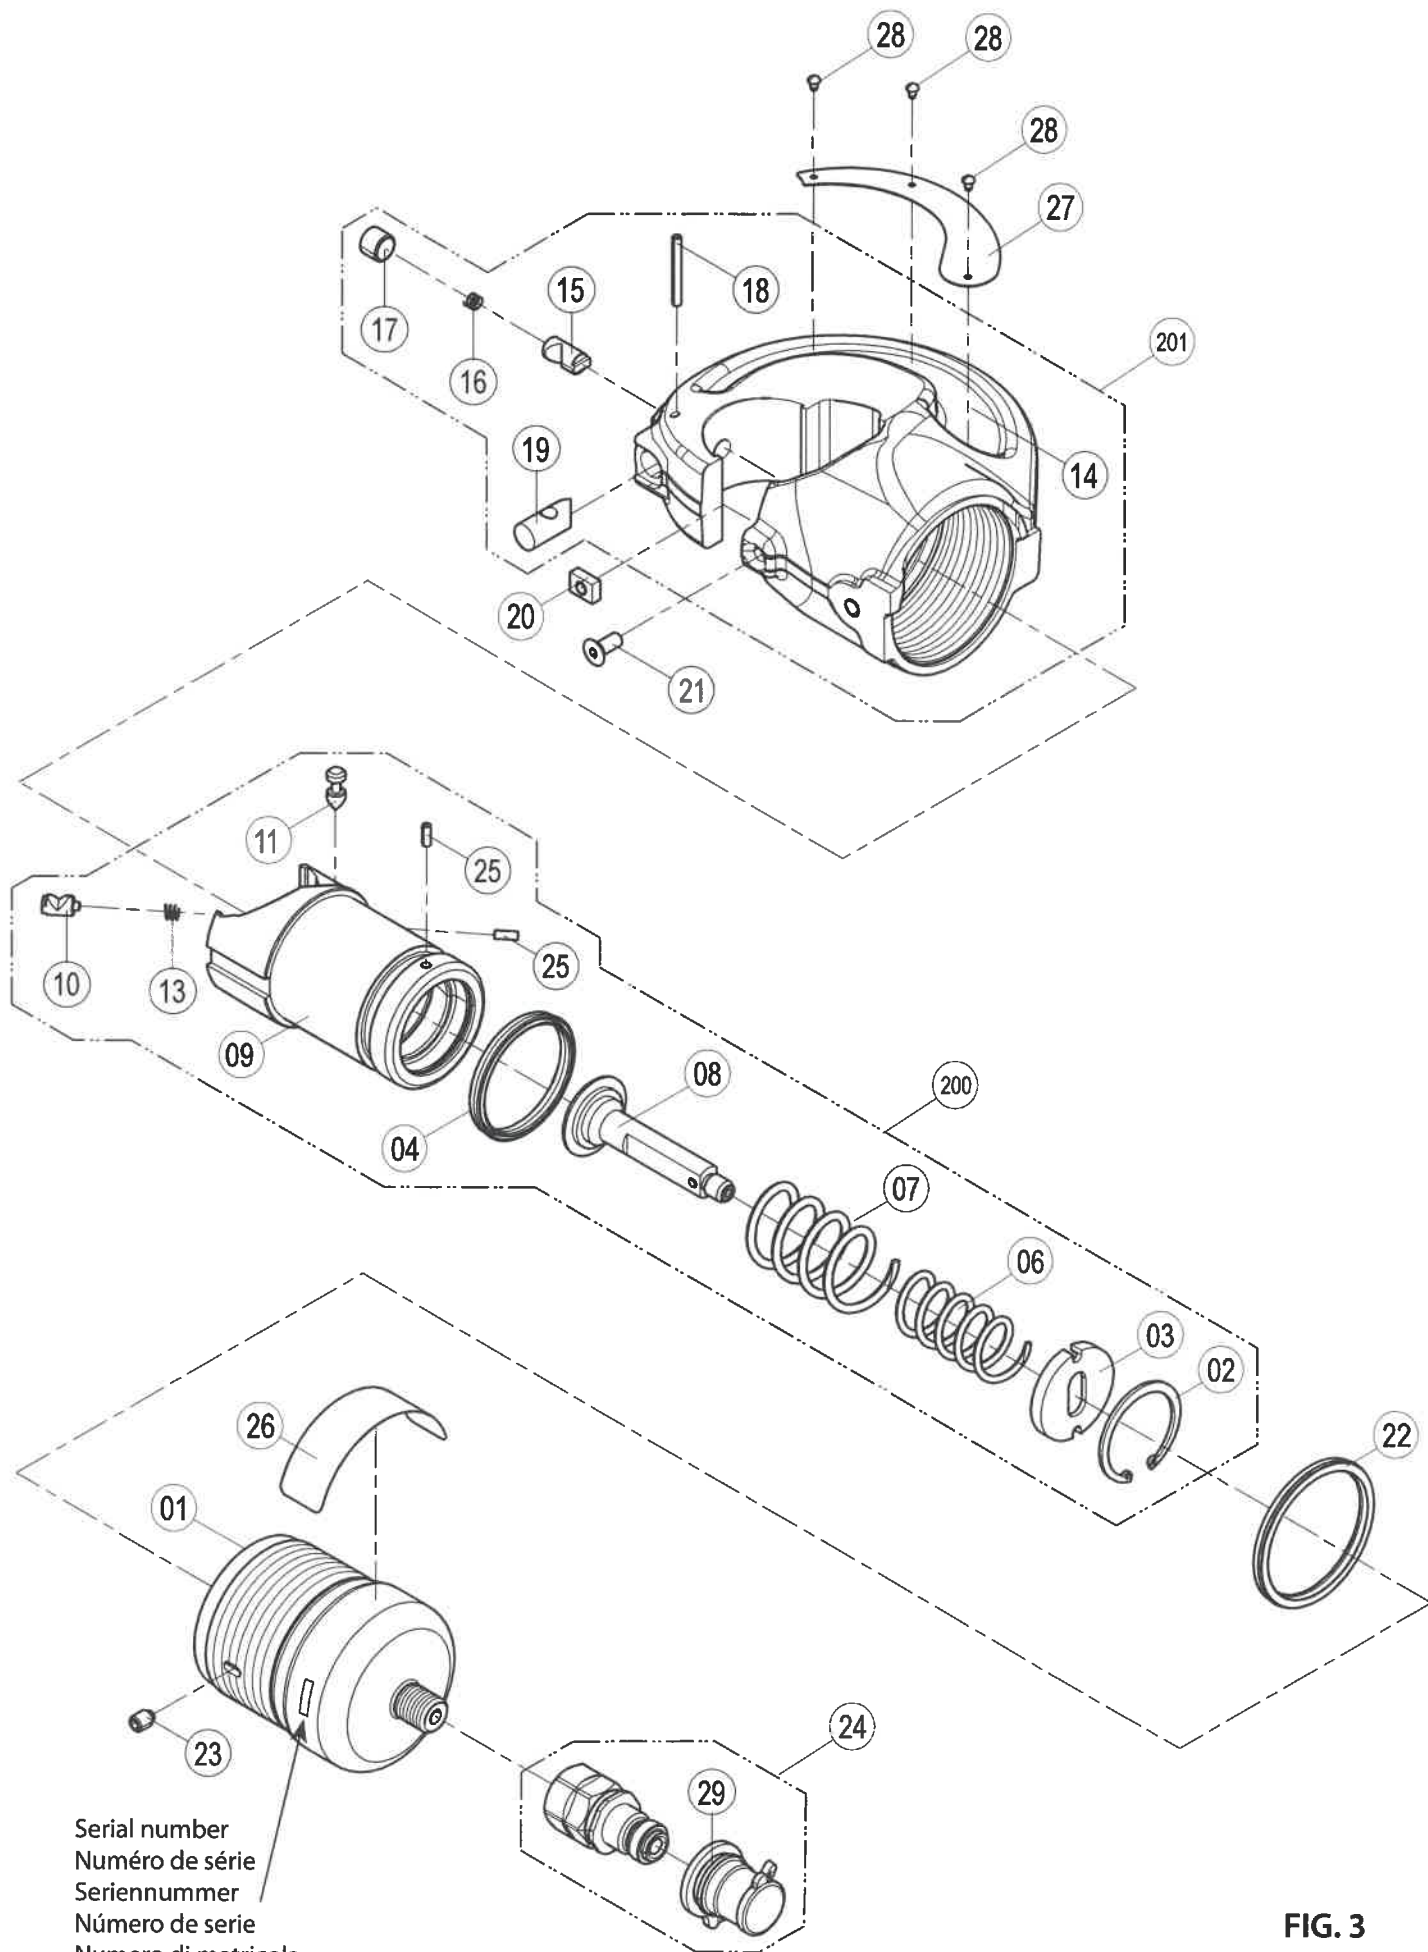

FIG. 3
5. LISTA DEI COMPONENTI (Rif. a Fig. 3)